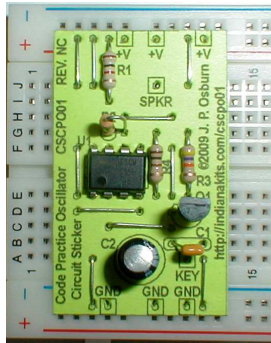

Figure 5 - CSCPO01 Construction
- ◇ The bare wire jumpers are indicated on the Circuit Stickers by straight lines. Use either recycled component leads or 22AWG solid wire to form the jumpers. See Figure 5 as an example.